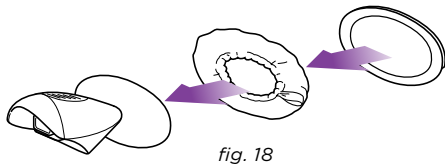

fig. 18
- 2 Use the lavender loop on the side of the bonnet to slide over the nozzle opening of the Garment Steamer. The elastic around the bonnet should hold it firmly in place around the Garment Steamer opening. (fig. 18)
- 3 Snap the frame with bristles over the Garment Steamer. For ease of use, we recommend that the bristles be placed at the top of the Garment Steamer bonnet. (fig. 18)